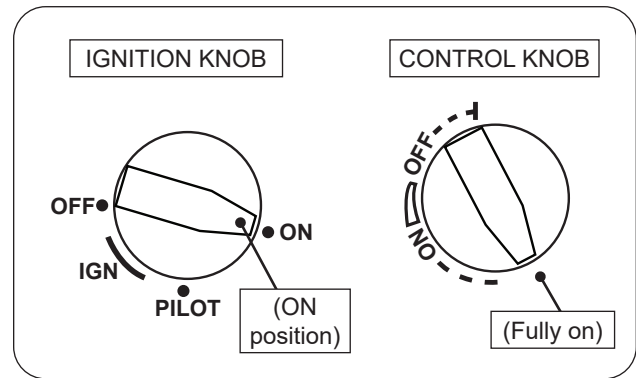

Fig. 31-1 Manual lighting
1. Ensure the pilot is burning. Turn the ignition knob counterclockwise ↺ to **ON** (see Fig. 31-1).
2. Turn the control knob counterclockwise ↺ to the fully ON position to ignite the burner (see Fig. 31-1).